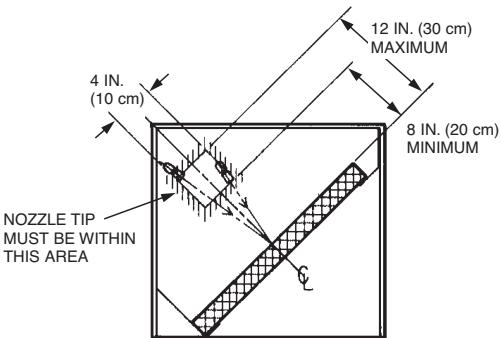

FIGURE 8
**Option 2:** The 1W nozzle must be placed perpendicular, 8-12 in. (20-30 cm) from the face of the filter and angled to the center of the filter. The nozzle tip must be within 2 in. (5 cm) from the perpendicular center line of the filter. See Figure 8.